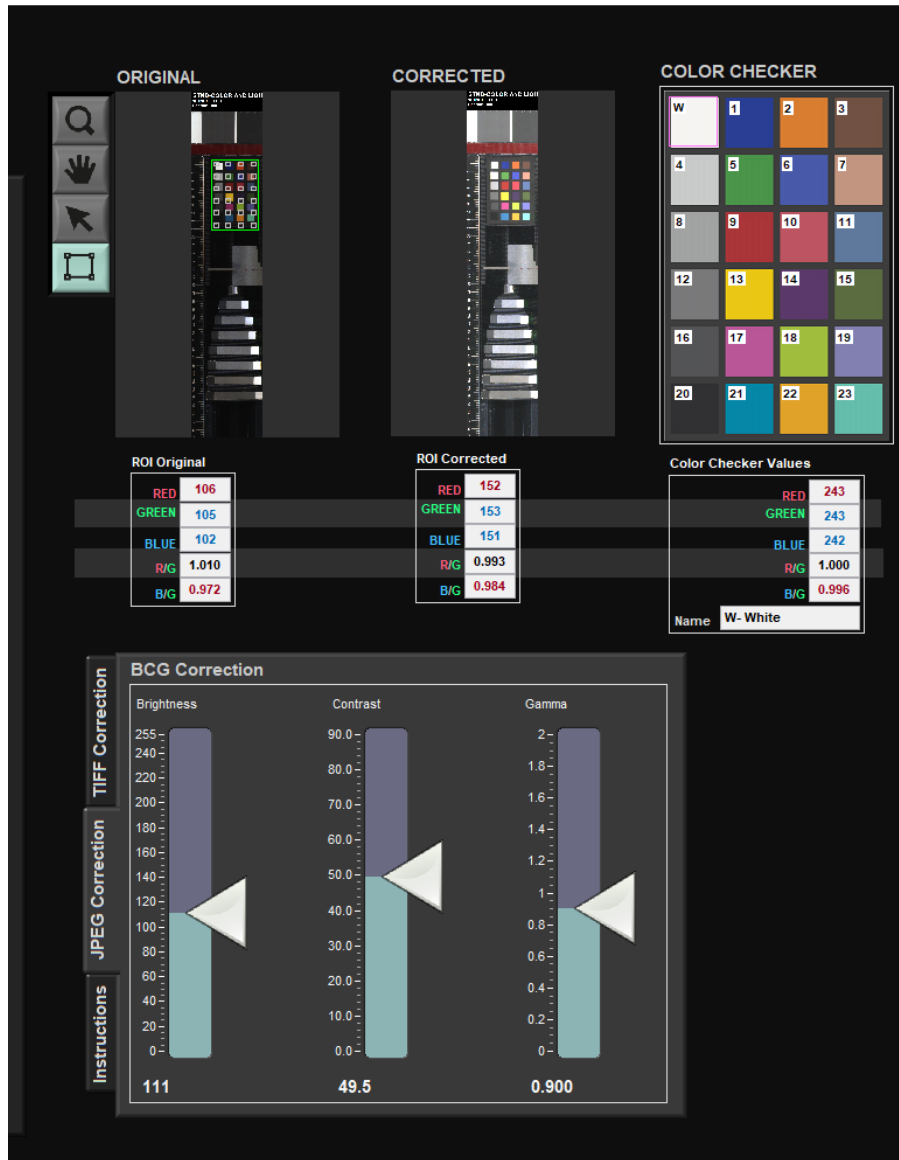

Figure 47. Crop Box drawn around test image
11. With the square tool selected draw a box around the color squares (Figure 47). This creates a crop area to focus in on the color boxes. Select crop when the box looks about right. For now the box can be approximate.